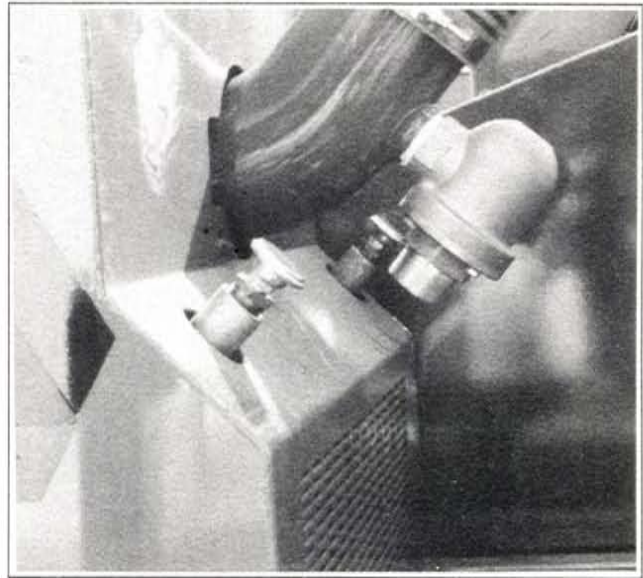

Fig. 31 RESERVOIR BREATHERS
1. To change oil, remove the fill plugs and vents (see figure. 31).
1. To clean, remove breather and wash with a solvent to remove the dust. (See figure 31).